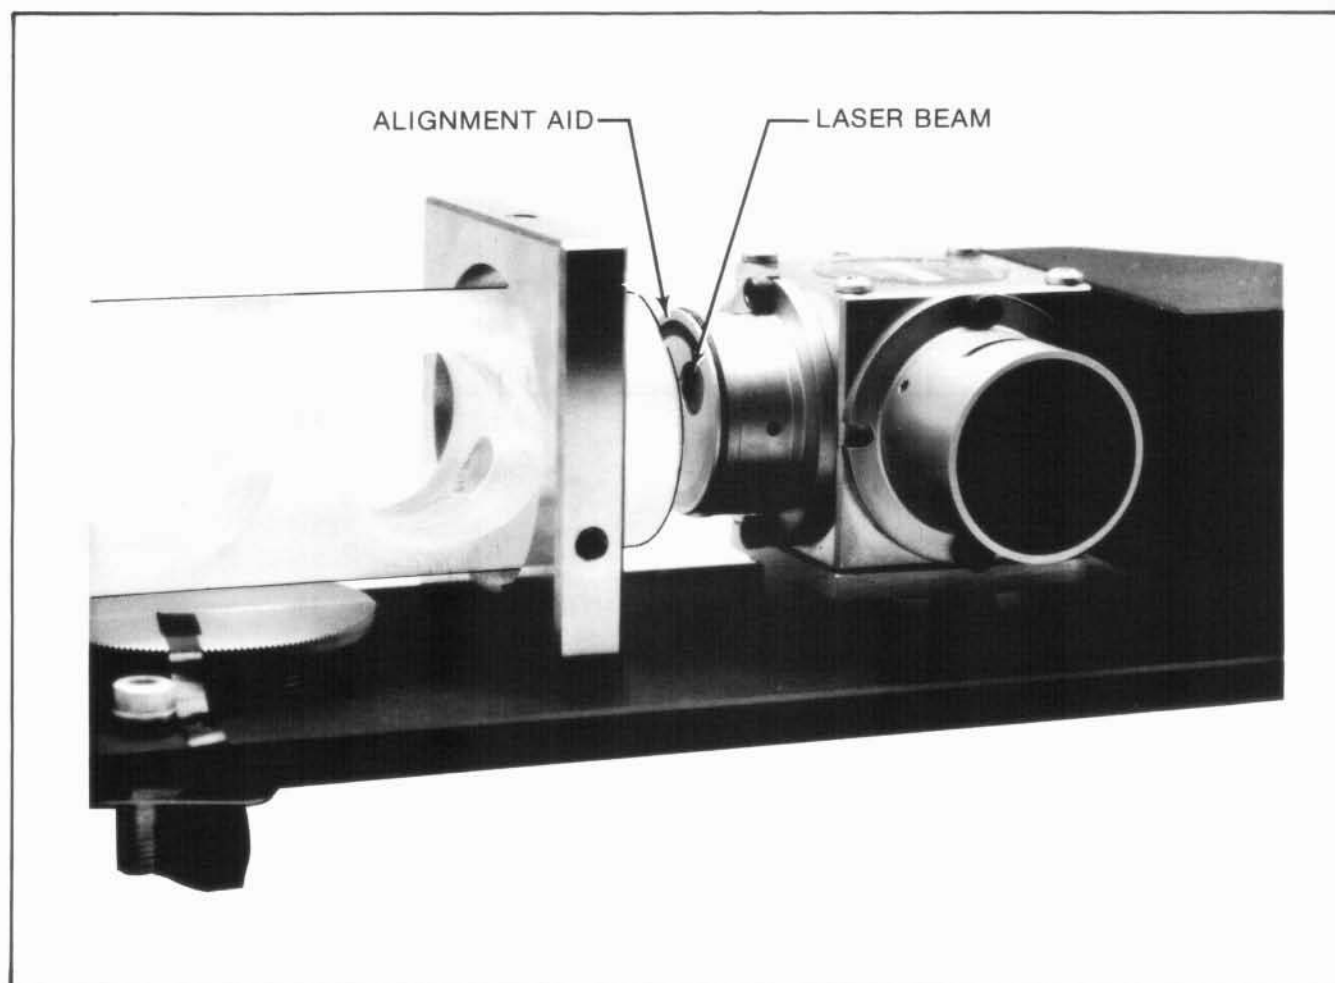

Figure 6-45. Installation of Alignment Aid
8. Install quarter-waveplate Alignment Aid so that the primary measurement beam passes through the hole of the Alignment Aid (see Figure 6-45).